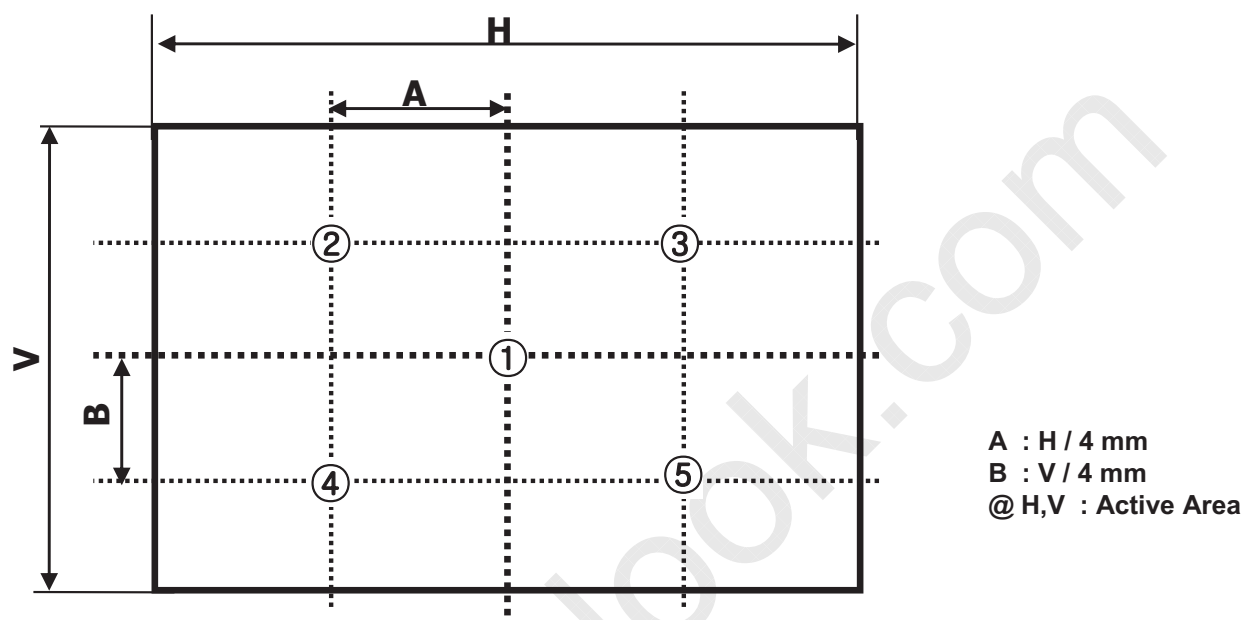

FIG. 2 5 Points for Luminance Measure
2. Surface luminance is determined after the unit has been 'ON' and 60min after lighting the backlight in a dark environment at $25 \pm 2^\circ\text{C}$. Surface luminance is the luminance value at center 1-point across the LCD surface 50cm from the surface with all pixels displaying white. For more information see the FIG. 2.
For more information, see the FIG. 2